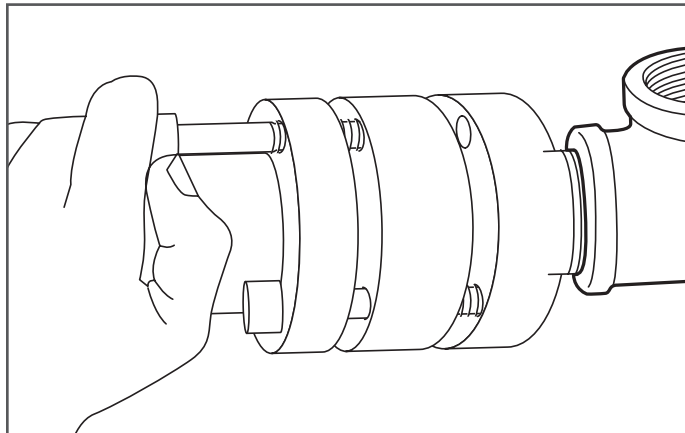

Figure 7-21
22. Apply an anti-galling agent on the cap screws and insert cap screws into the back section of the fitting. Partially tighten cap screws allowing the fitting to swivel. Swivel DoubleTrac® BSPT fitting into existing piping (elbow, tee, valve etc.) (Figure 7-21).